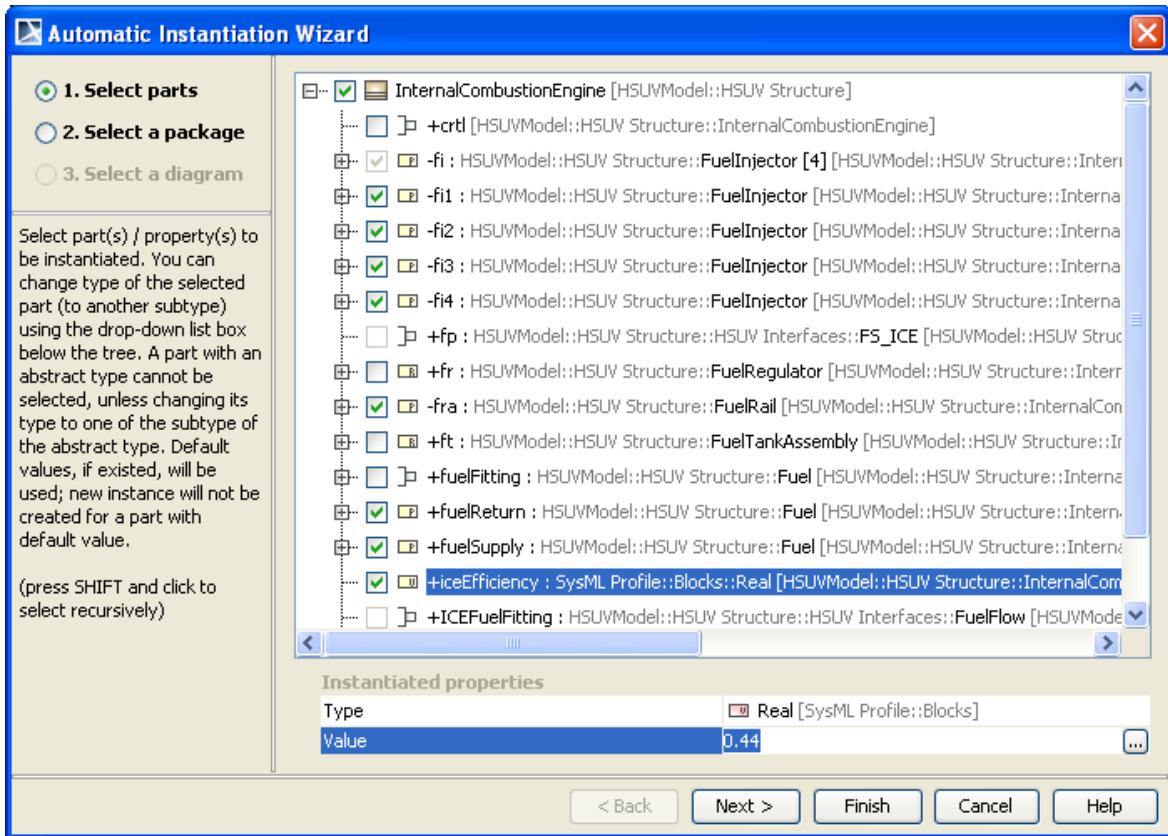
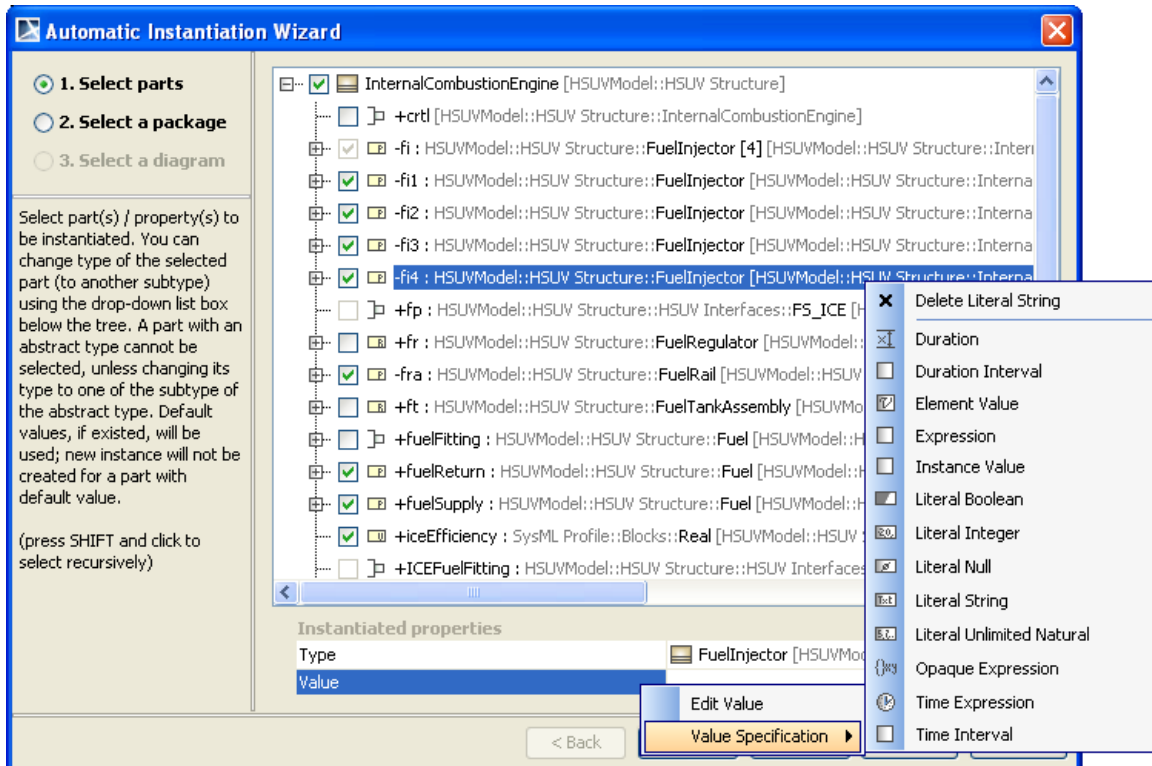

Figure 29 -- Assigning Value Property
Figure 30 -- Changing Value Specification Type for Slot Value
- For any selected property, you can also directly assign the value to the slot by using Value property in the Instantiated properties table. For the value properties, you can type the value into table directly (Figure 29). For the complex structure, you can selected the existing instance specification to be the instance value. Moreover, any value specification can be created and assigned to be slot value of selected property by right click on the cell Value in the table then the context menu for edit, delete and create a various type of value specification will be popped up (Figure 30).